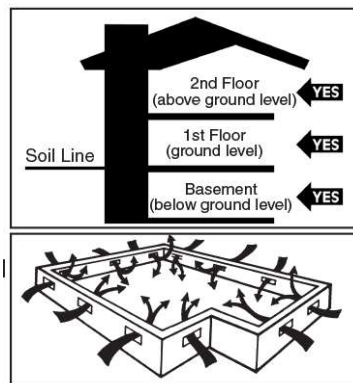

Figure 1
- Crawl spaces must be a minimum of 18” (46 cm) from the ground to the underside of the joists. A ground cover of 6-20 mil black polyethylene film is essential as a vapor barrier with joints lapped 6” (15 cm) and sealed with moisture resistant tape. The crawl space should have perimeter venting equal to a minimum of 1.5% of the crawl space square footage. These vents should be properly located to foster cross ventilation (**Figure 1**). Where necessary, local regulations prevail.